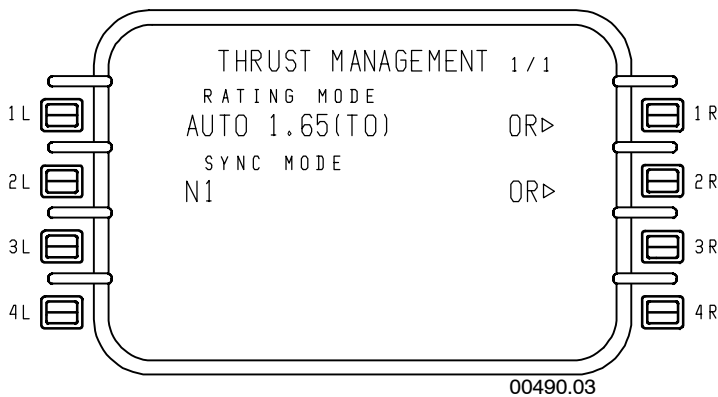

Figure 5-50
- **THRUST MANAGEMENT 1/1** - Figure 5-50 shows the current thrust rating mode and sync mode.